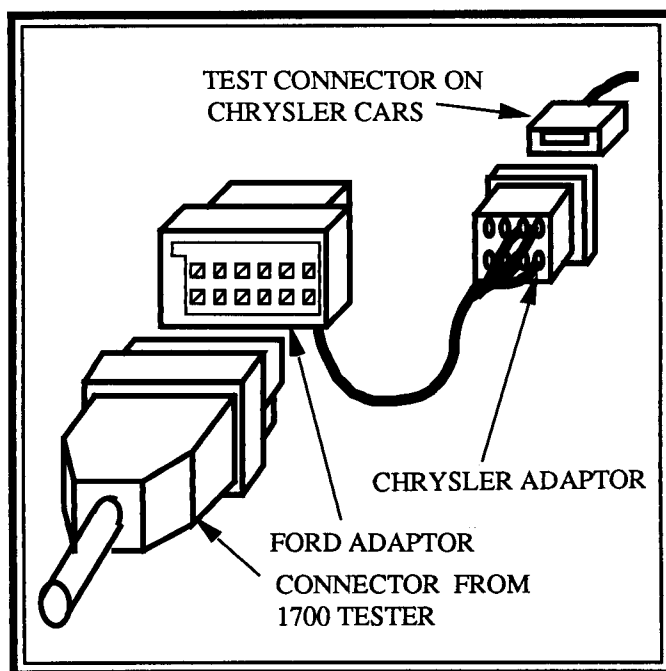

Fig. 8. Plug Ford end of adapter into 1700 then plug Chrysler end of adapter into connector on the car. Make sure the plugs are inserted into each other.
4. Plug the tester lead into the Chrysler adapter, **Fig. 8**. Make sure none of the metal pins is bent or no data will enter the scanner.